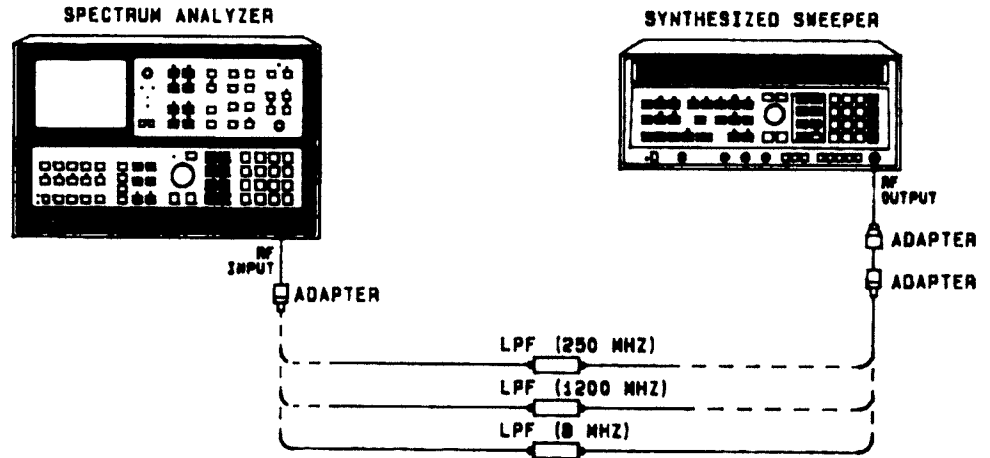
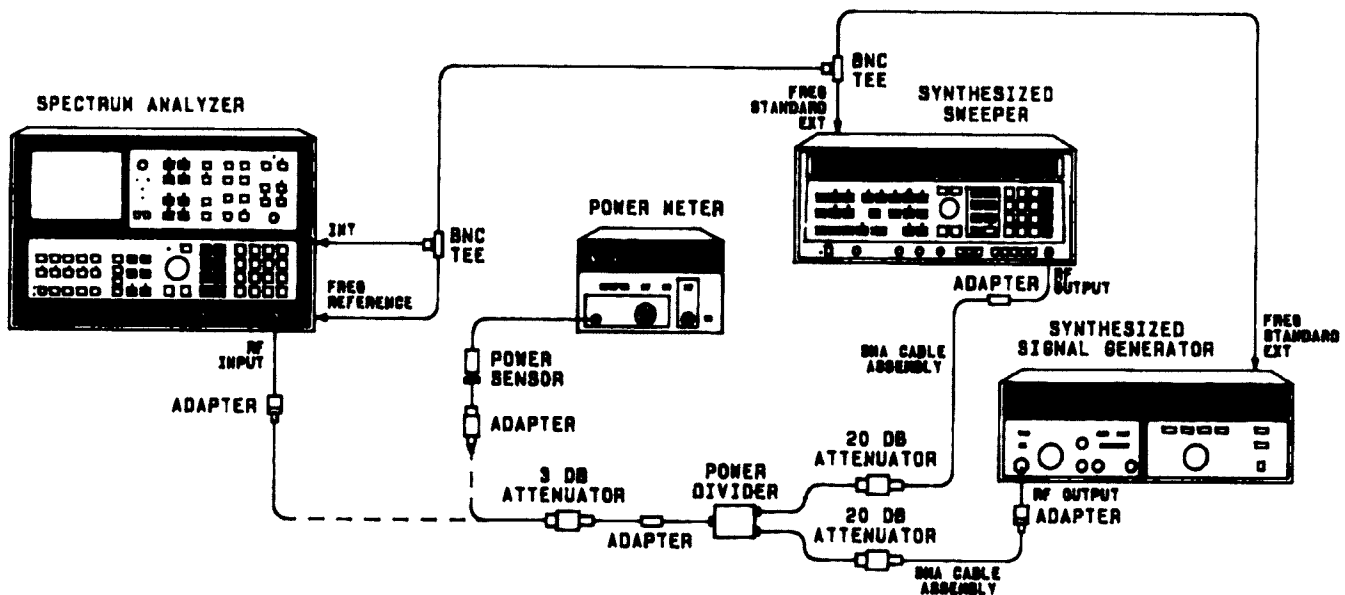

Figure 2-28. Harmonic Distortion Test Setup
Figure 2-29. Intermodulation Distortion Test Setup
Equipment listed is for two test setups, Figure 2-28 and Figure 2-29.
3. Connect equipment as shown in Figure 2-28, using the 250 MHz low-pass filter. Adjust the synthesized sweeper output level to place peak of signal trace at the top graticule line.
27. Connect equipment as shown in Figure 2-29 with "output" of power divider connected to power sensor. The **FREQ REFERENCE** switch on the rear panel of the analyzer should be set to **INT** and the **FREQ REFERENCE** switch on both synthesized source rear panels should be set to **EXT**.
31. Connect output of power divider to analyzer RF INPUT as shown in Figure 2-29.
42. Connect the output of the power divider to the power sensor as shown in Figure 2-29.
44. Connect the output of the power divider to the analyzer input as shown in Figure 2-29.